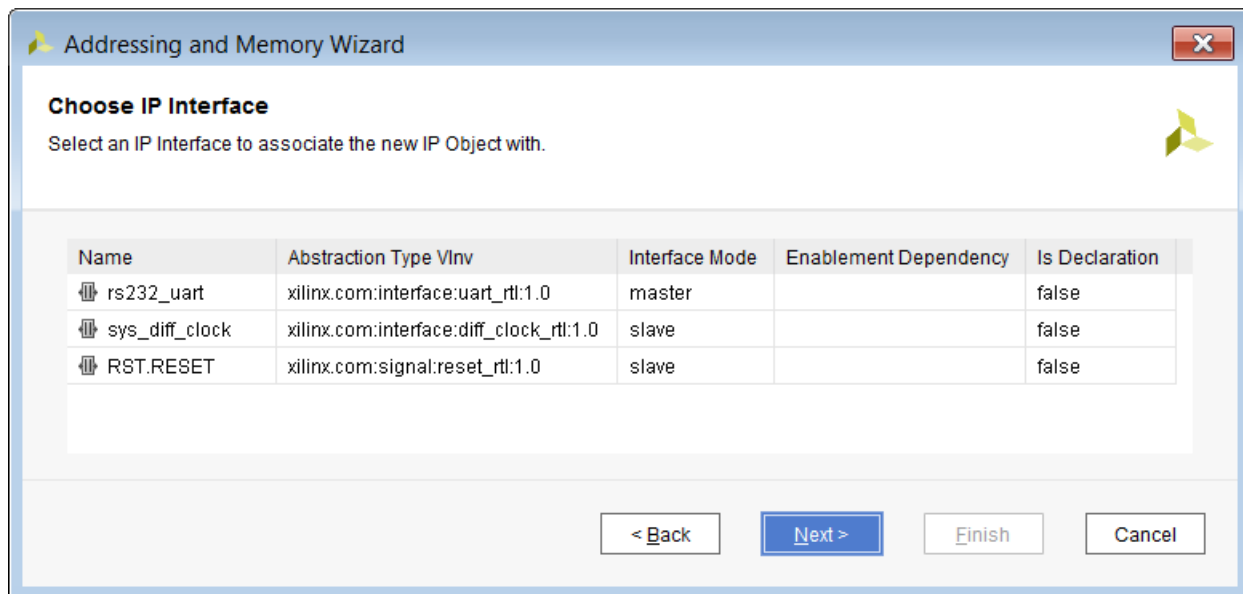

Figure 4-24: IP Addressing and Memory Configuration Wizard - Choose IP Interface
3. In the Choose IP Interface page, shown in Figure 4-24, select the interface to add a memory map, and click **Next**.